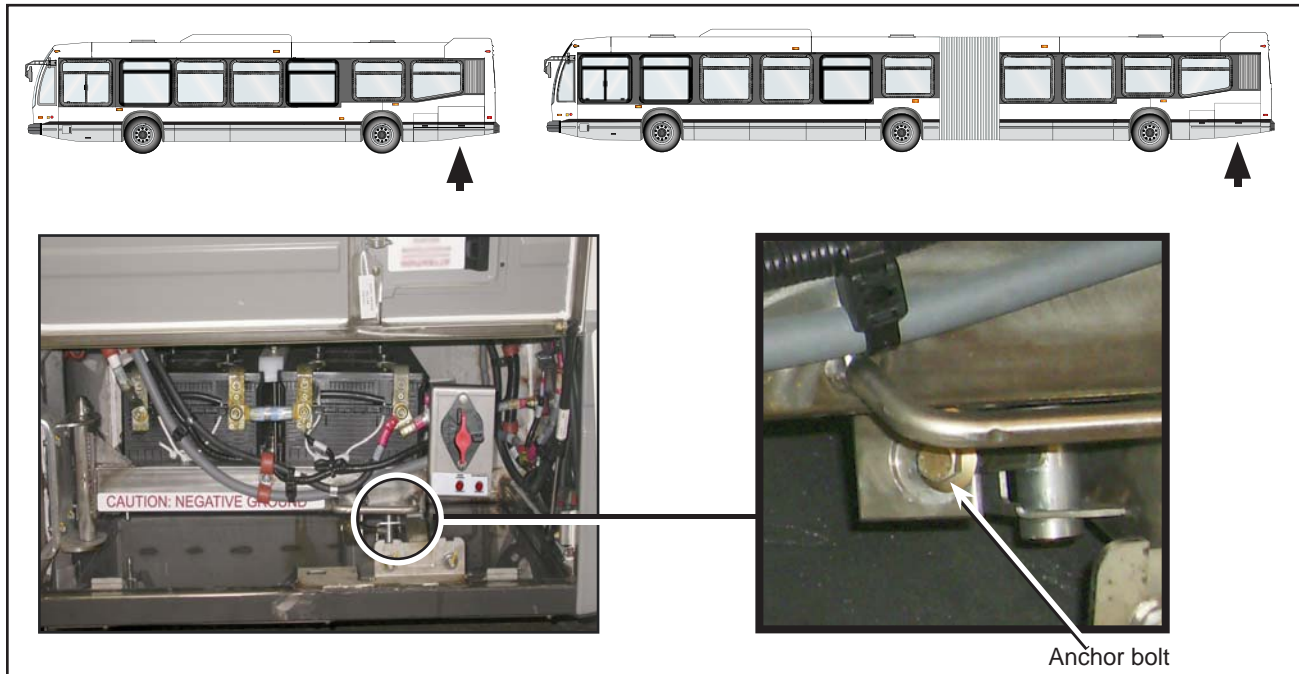

Figure 1 - Typical Battery Compartment
- 1.1. Locate the battery compartment, on the rear street side of the vehicle. See Figure 1. Open the compartment access door.
- 1.2. Release the anchor bolt of the pivoting battery tray. See Figure 1. Swing the tray out.
- 2.20. Secure the pivoting tray with the anchor bolt. See Figure 1.